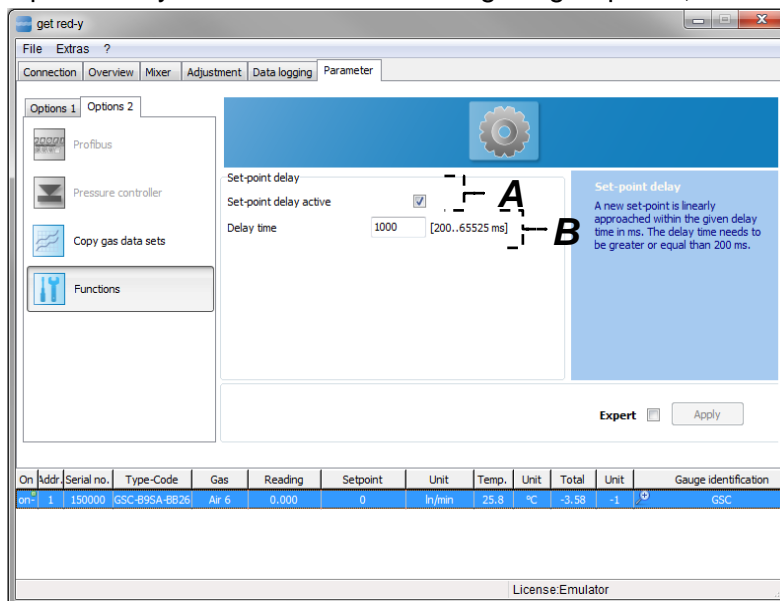

Figure 37: Setting the set-point delay time
- B. Delay time:** You can set the delay time here, i.e. how long the linear increase to the new set point lasts (see Figure 37). The delay time has to range between 200 and 65535 ms.